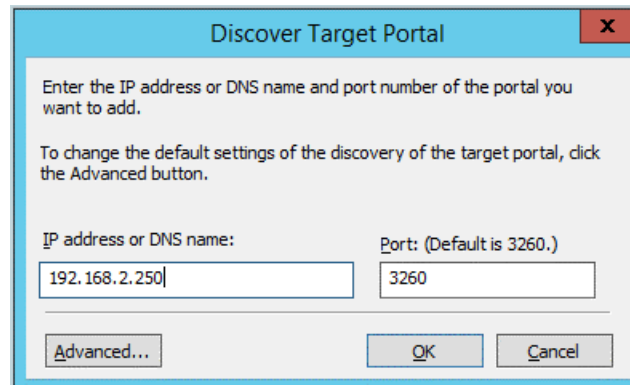

Figure 9-20. Target Portal IP Address
5. In the Discover Target Portal dialog box (Figure 9-20):